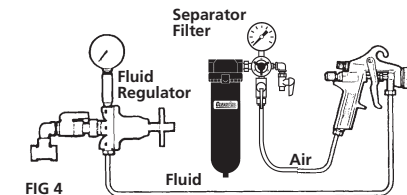

FIG 4
**PRESSURE CIRCULATING HOOKUP (Figure 4)**